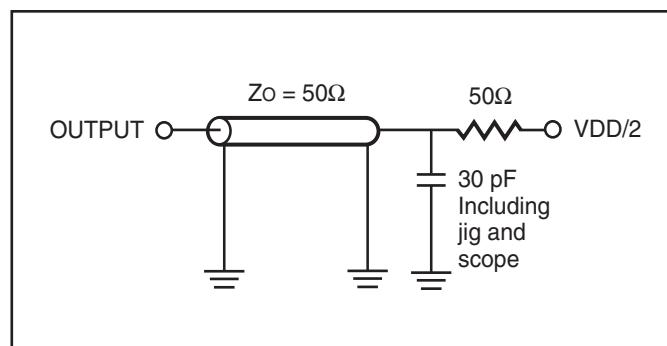

Figure 1.
| Output Load | See Figures 1 and 2 | See Figures 1 and 2 | See Figures 1 and 2 |
1. Test conditions and output loading conditions are specified in the AC Test Conditions and AC Test Loads (Figure 1).